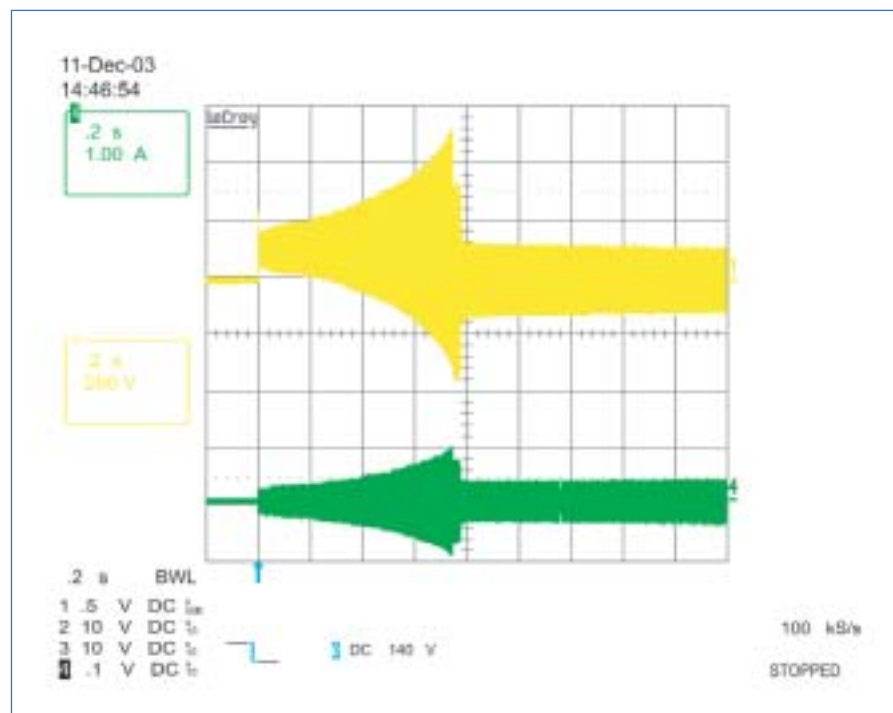
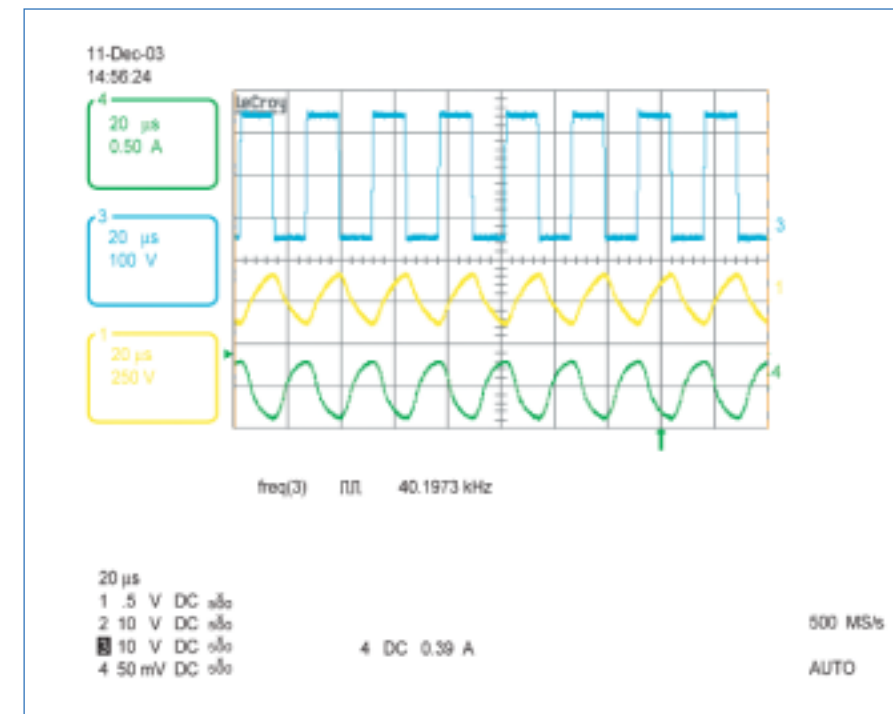

Figure 4. Current across the resonant inductor and the voltage across the lamp.
Figure 5. Lamp voltage and the lamp current during Run mode.
Figure 4 shows the current across the resonant inductor and the voltage across the lamp filaments at start-up, and Figure 5 shows the VS (HB) voltage, the lamp voltage and the lamp current during Run mode.